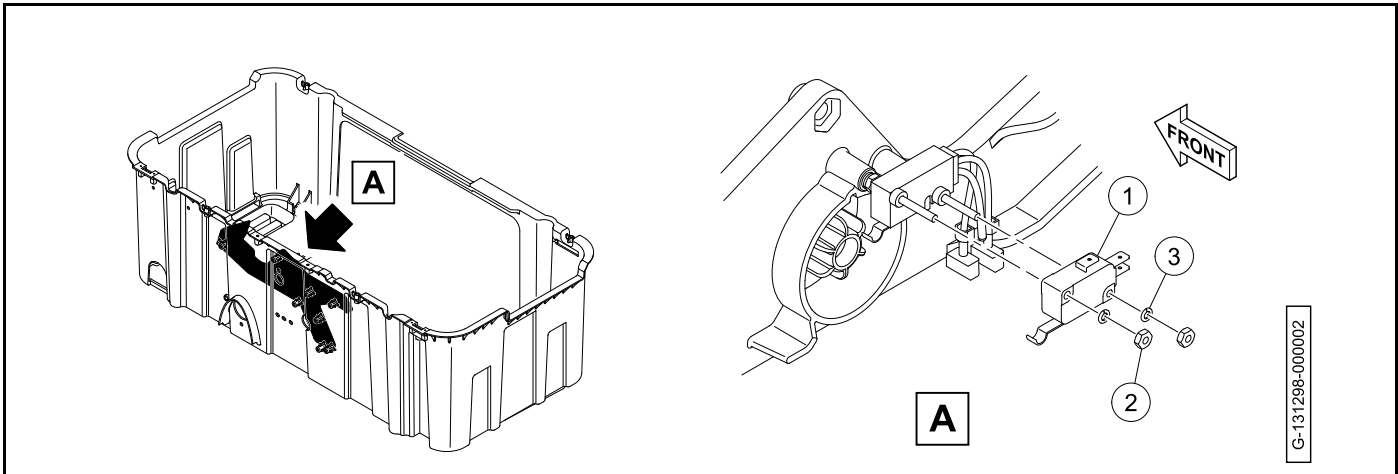

Figure 19-27 Neutral Lockout Limit Switch Installation
1. Install the neutral lockout limit switch (1) on the bolts (Figure 19-27, Page 19-26).